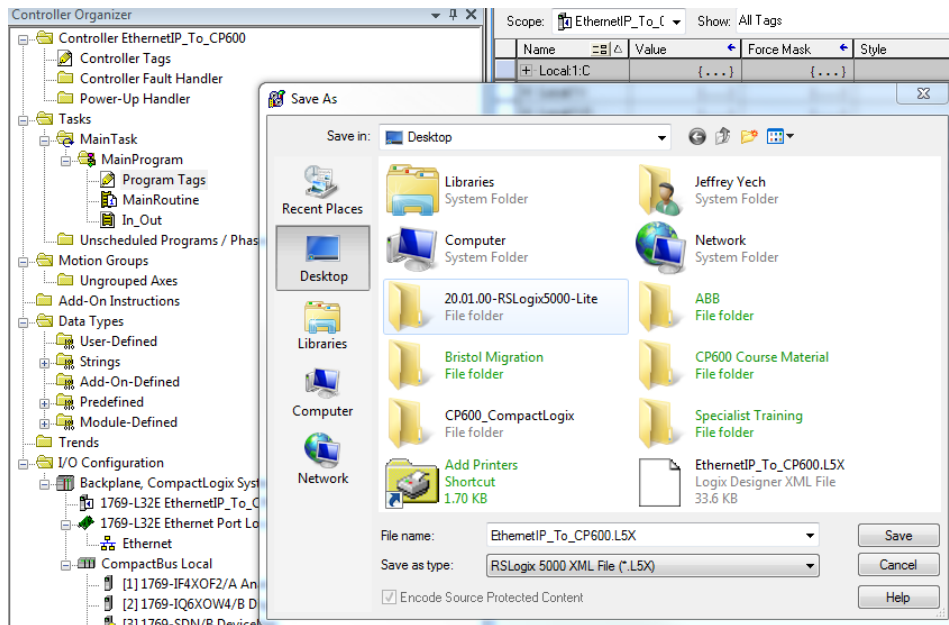

Figure 2- Save project as a .L5X file.
- 3.5. Save the project as a .L5X file, as shown in figure 2 below.